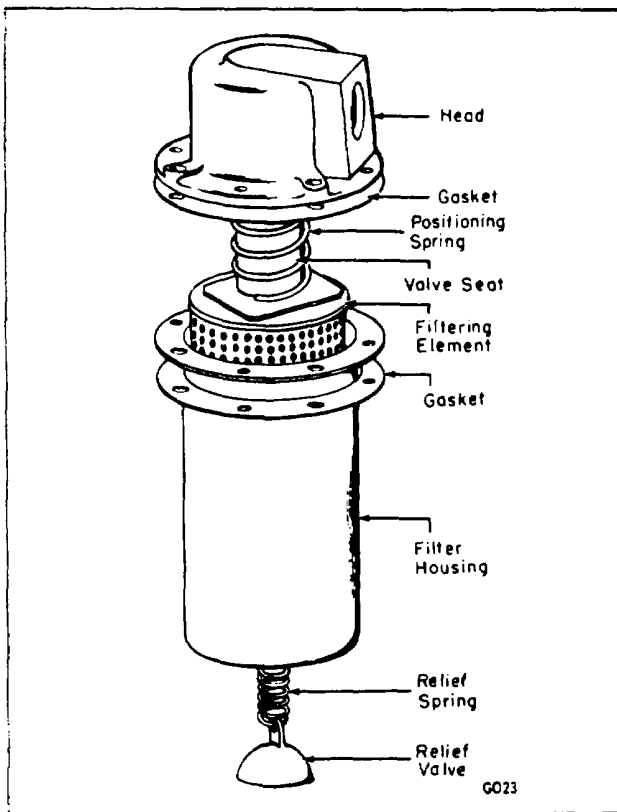

Figure 13.
1. Disconnect the hydraulic lines from the filter head. Unscrew the capscrews securing the filter assembly to the tank. Lift the filter assembly out of the tank. (Fig. 13)